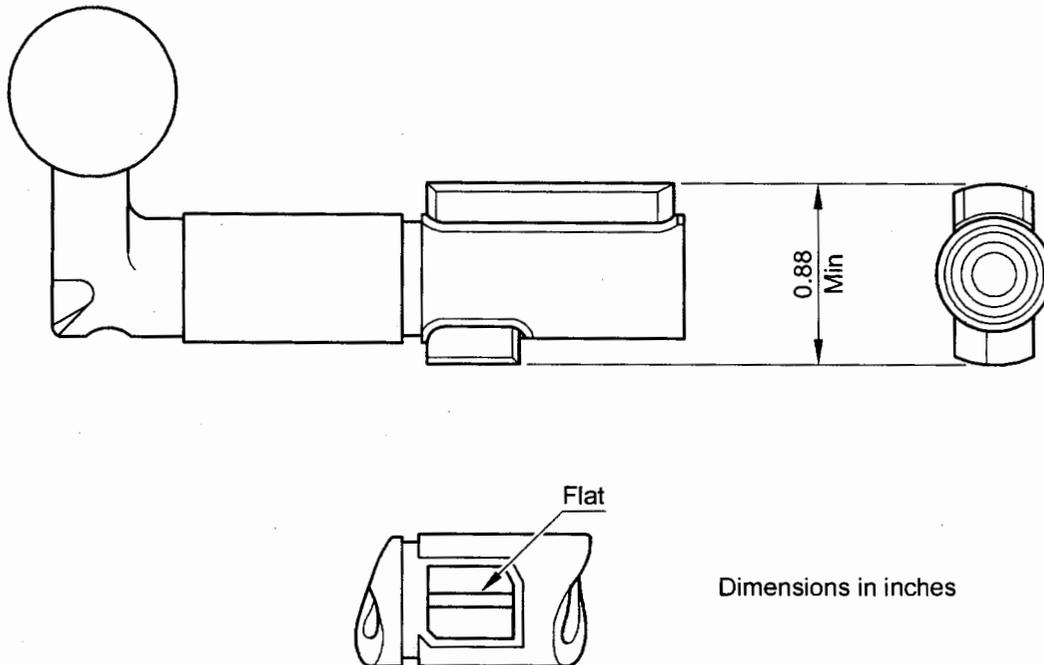

Fig 3 Adjustment to bolt resistance lug
22.9.3 If the marking on the lug indicates that the sear is high, check the dimension shown in Fig 3. If it is in excess of 0.88 in. a flat may be stoned or machined on the lug as illustrated. The dimension is not to be adjusted to less than 0.88 in.